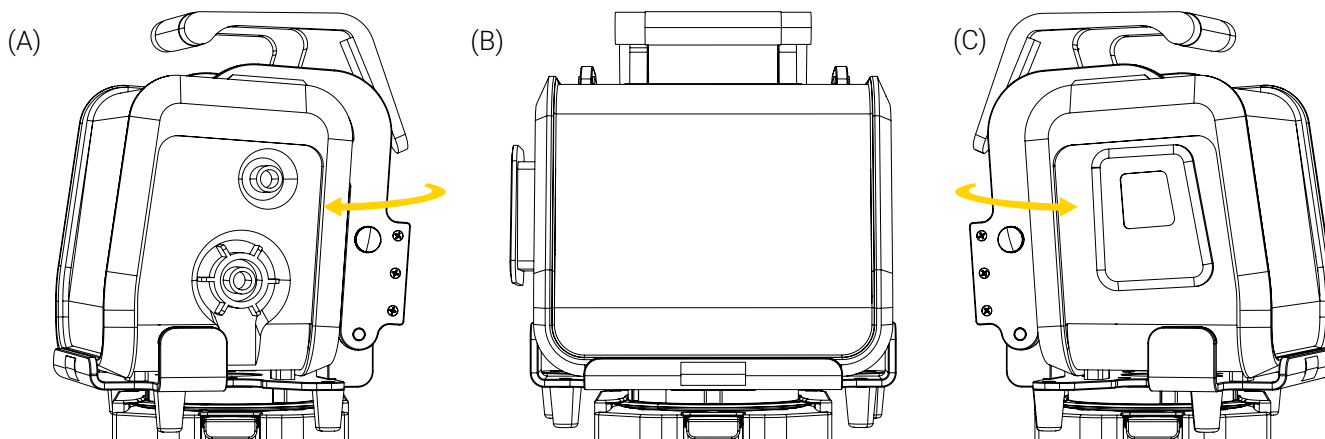

Figure 9: Rotating the medical device on the Standard Surface Base
3. Turn the medical device clockwise or counterclockwise to the desired position (Figure 9).